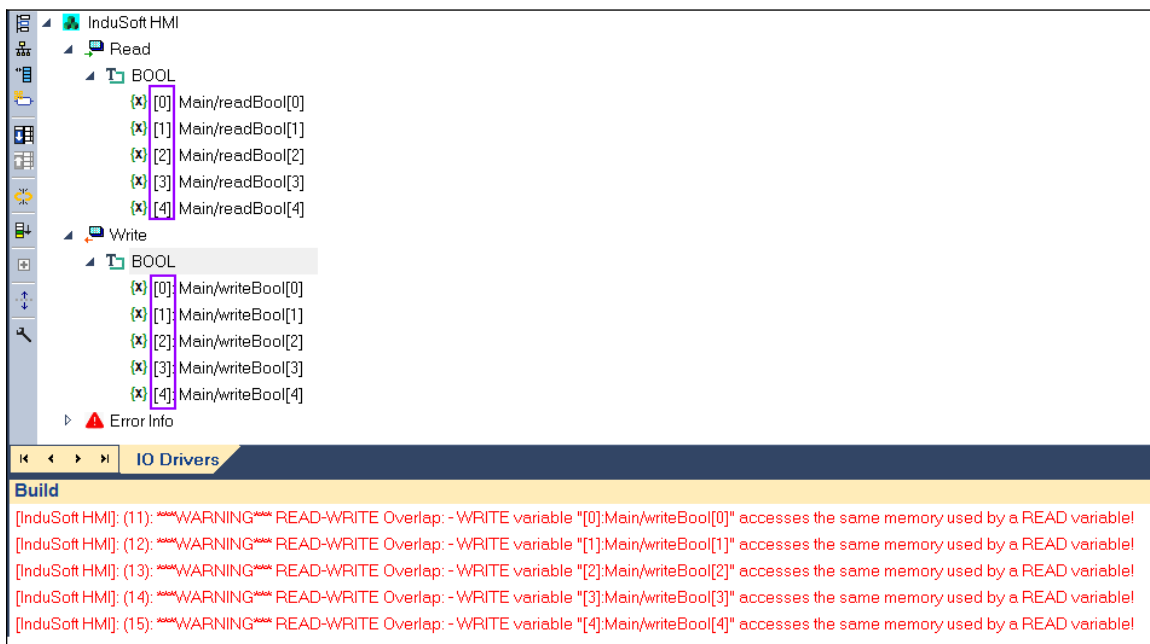

Figure 10: Read/write overlap
1. Make sure that the same variable in the 'Read' and 'Write' node do not access the offset position of the same memory type otherwise the data will be overwritten (Figure 10).
In Figure 10 the BOOL memory is being accessed by 'Read' and 'Write' variables read at the same offset. This may cause BOOL data received from the InduSoft runtime to be overwritten by the Workbench runtime. Set the 'Read' and 'Write' variables to different offset to prevent this error from occurring.